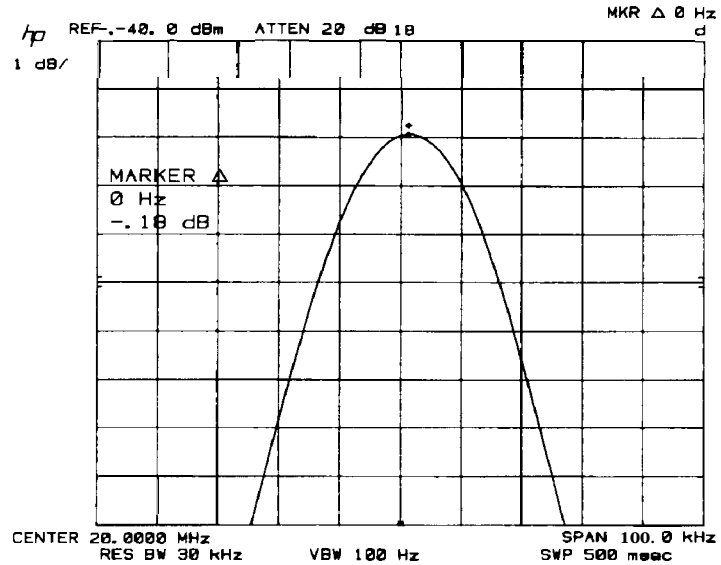

Figure 2-10. Attenuator Switching Uncertainty Measurement
7. Set (ATTEN), (REFERENCE LEVEL), and frequency synthesizer amplitude according to Table 2-1 1. At each setting, press MARKER (PEAK SEARCH) and record the deviation from the 10 dB setting from the MARKER A amplitude readout (see Figure 2-10). The deviation should not exceed ±1.0 dB at any setting.